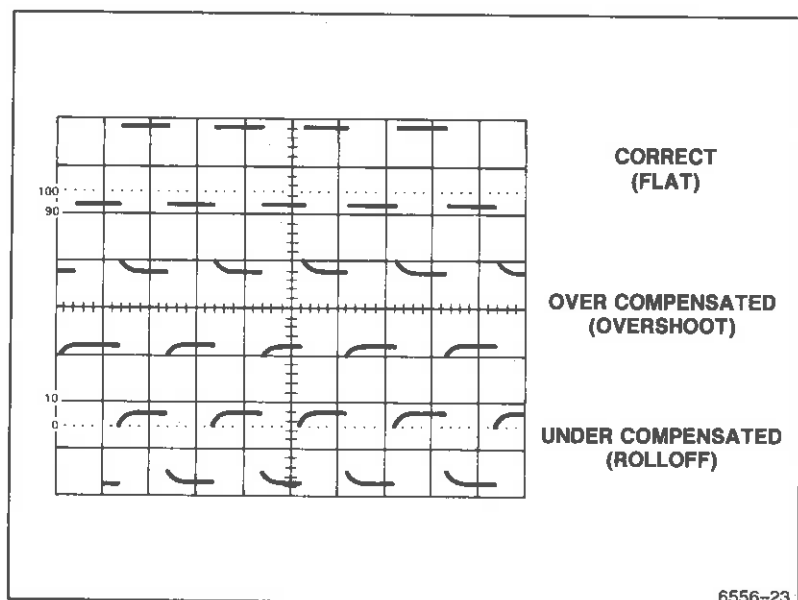

Figure 4-1. Probe compensation.
6. Check the square-wave signal for overshoot and rolloff (see Figure 4-1). If necessary, use the special adjustment tool supplied in the probe accessory package to adjust the low-frequency compensation for a square front corner on the square wave displayed.